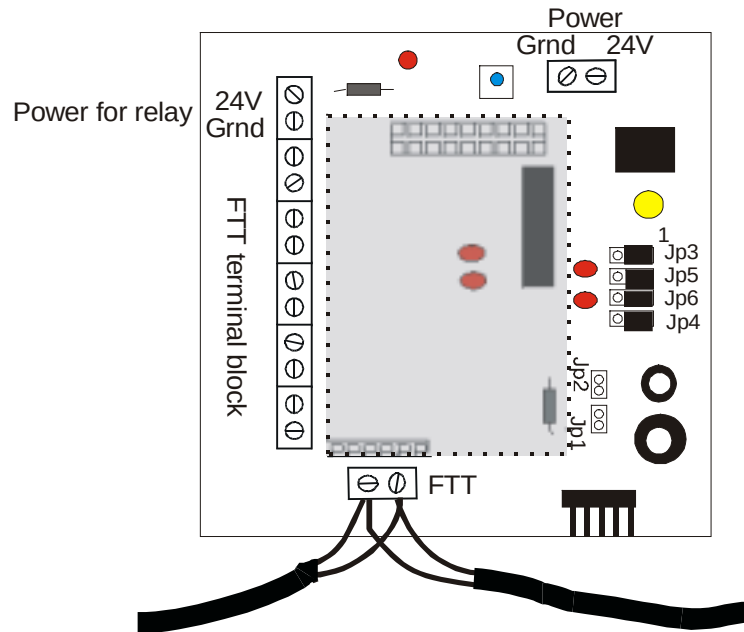

Figure 11 FTT Motherboard. Gray area notes location of the LonWorks daughterboard.
- Step 2:** Insert the twisted pair wire into the terminal block labeled FTT in Figure 11 in the Serial Gateway and run it out the conduit chase.
Step 2: Insert the twisted-pair wire into the terminal block labeled FTT (Figure 11) in the first Reader and run it out the conduit chase.
The FTT Reader has two outputs to control devices. These outputs can be found on the FTT Terminal block (Figure 11).